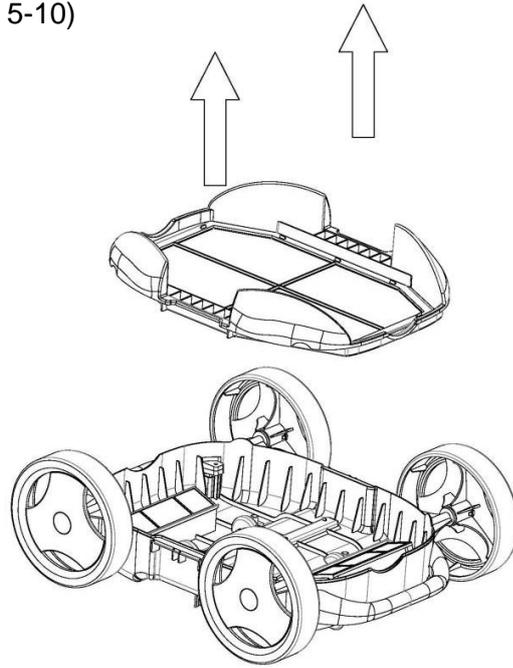

Fig. 5-10
5.5.2 Take off the filter tray (Fig. 5-10)